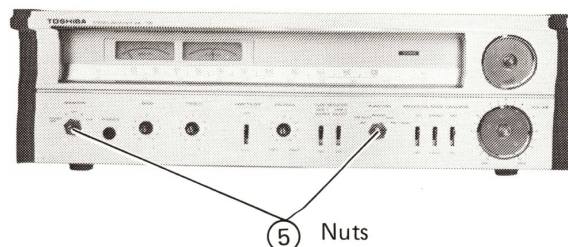

Figure 6
4. Remove two nuts ⑤. See figure 6.